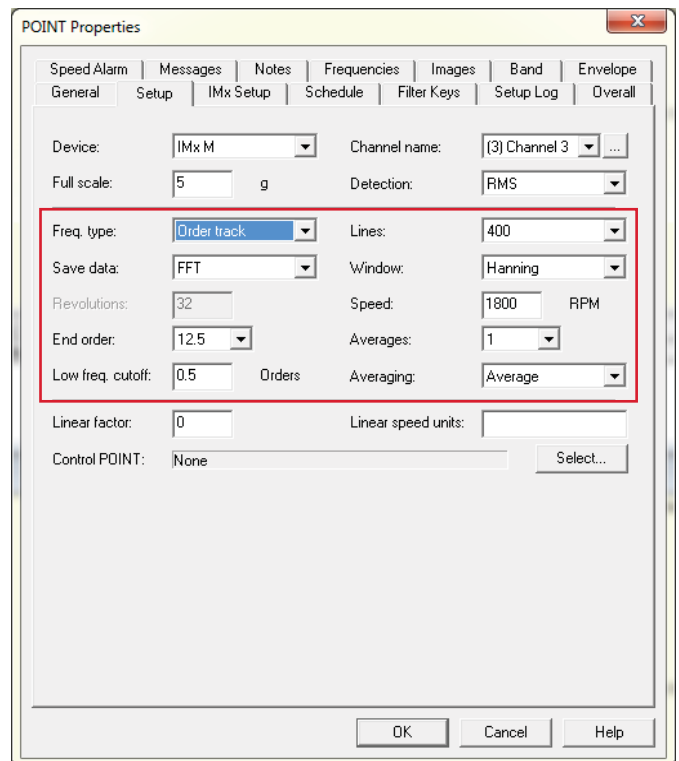

Fig. 6. Point Properties' Setup tab.
- In the **Point Properties' Setup** tab (→ fig. 6):
- The **Low freq cutoff** is set in orders (X).